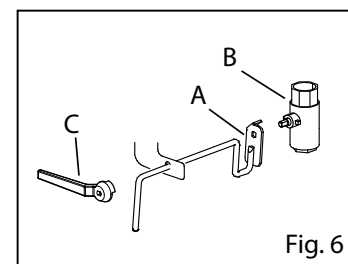

Fig. 6
- Unscrew the fastening of the valve rod and take out the rod (Fig. 6/A)
- Unscrew the valve (Fig. 6/B)
- Remove, if present, the handle supplied (Fig. 6/C) and place threadlocks on the new valve